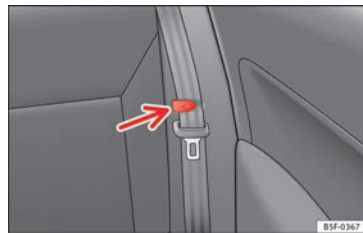

Fig. 153 Clip to support the seat belt.
- Place the side seat belts in the trim clip »» Fig. 153.